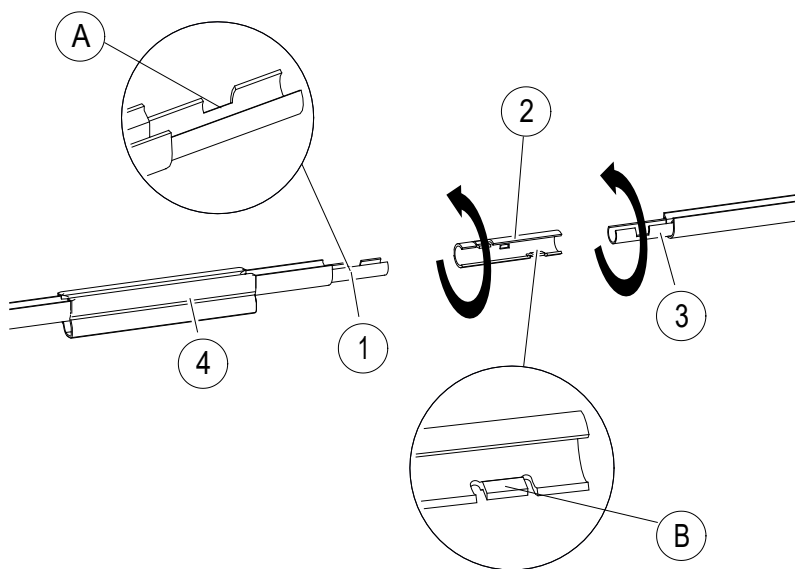

Fig. 60: Mounting the bayonet connector
- Slide the bayonet connector (2) onto the conductor rail (1) so that the tab (B) and the notch (A) are at the same height (see Fig. 60).
- Turn the bayonet connector (2) 90° so that the tab (B) snaps into place (see Fig. 60).
- Slide the second conductor rail (3) into the bayonet connector so that the tab (B) and the notch (A) are at the same height (see Fig. 60).
- Turn the second conductor rail (3) by 90°, so that the tab (B) locks into place (see Fig. 60).
- Slide the one-piece connector cap (4) over the bayonet connector and snap into place or attach a two-piece connector cap. The connector caps must hook into the lower part of the insulating profile.